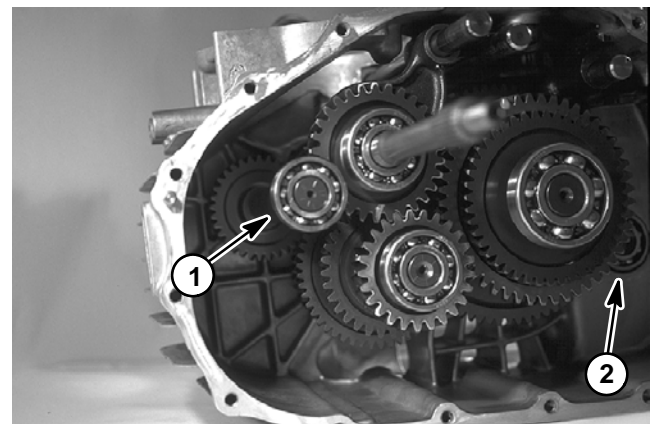

Figure 29
8. **On 4WD units**, remove front drive shaft and 41T gear from the gear case. Remove bearings from gear case (Fig. 29, item 2) and center plate.